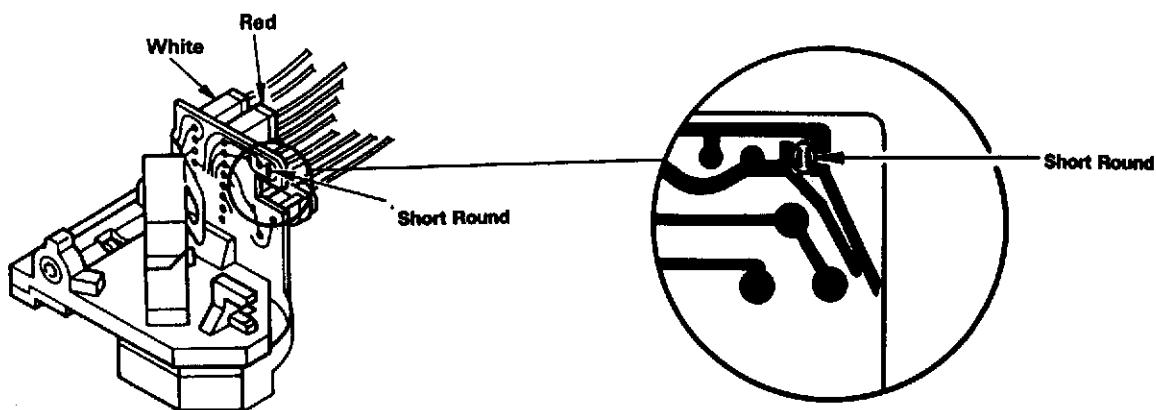

Fig. 7
6. After you connect the wire connector, desolder and remove the shorting tab (See Fig. 7).